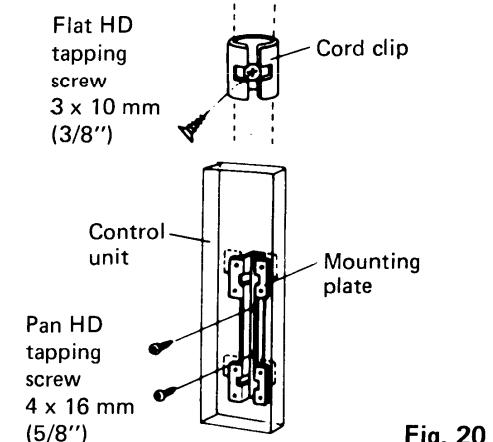

Fig. 19
- If the drain pipe will run in the room, insulate the pipe with an insulation material* lest chilled sweat should damage furniture or floors. Fig. 19